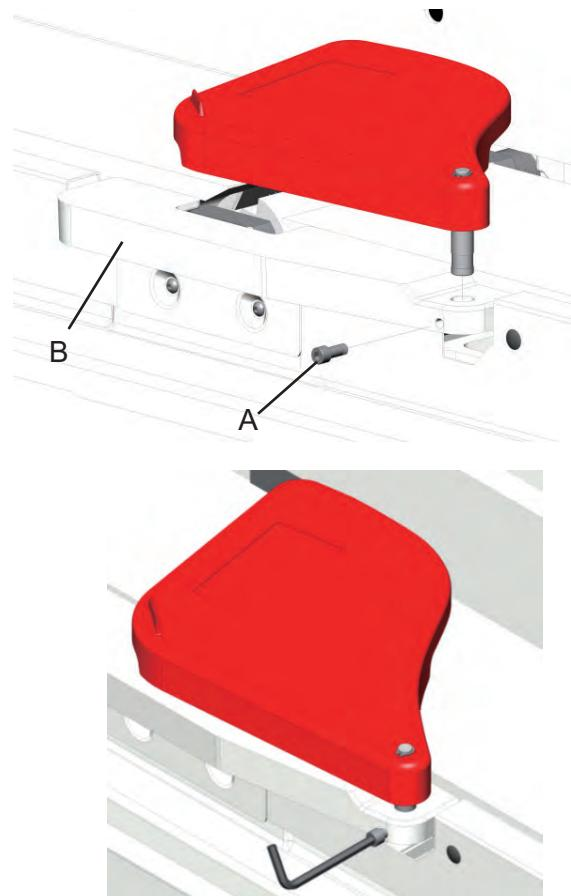

Fig. 2
1. Loosen the CAP screw (A) on the rabbet arm (B), Fig. 2